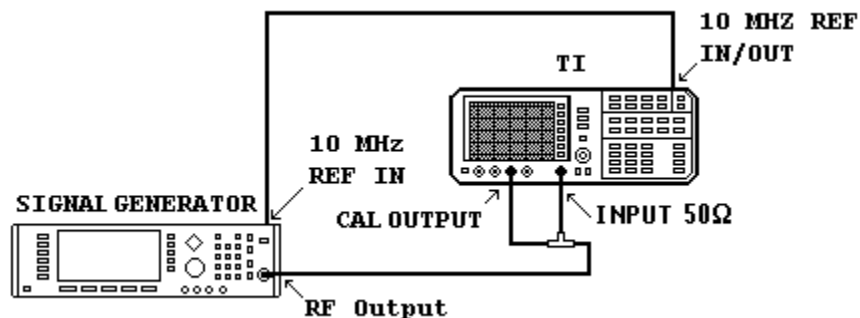

Figure 5. Frequency drift - equipment setup.
(1) Connect equipment as shown in figure 5.